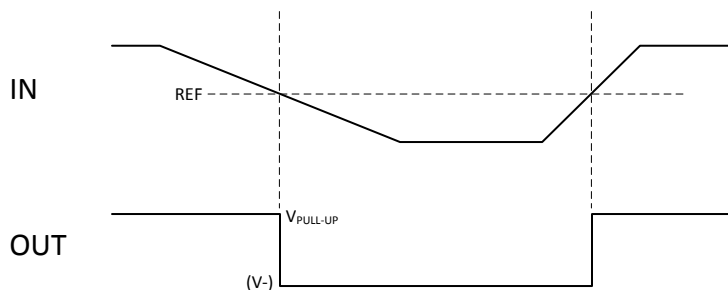

Figure 22. Under-Voltage Timing Results
Instead of being powered directly from the battery, the TLV7081 is powered directly from a voltage reference that exists in the system. The input to the comparator (IN) is allowed to operate above and below the reference voltage due to the unique analog front end of the TLV7081. When the battery voltage is above the reference threshold, the output of the comparator is high and when the battery drops below the threshold of the reference, the output of the comparator goes low (see Figure 22 for details). For simplicity, the integrated hysteresis of the comparator is not shown in the timing diagram. Integrated hysteresis is helpful in avoiding glitches at the comparator output when operating in noisy environments or when the input voltage changes thresholds very slowly. An open-drain output configuration allows the output logic level of the comparator to be level-shifted to match the logic level of the receiving device.